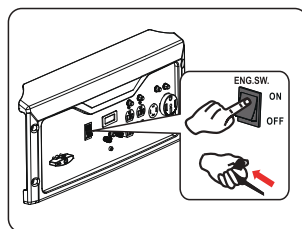

Fig 12
- For manual start, turn the engine ON/OFF switch to the “ON” position. Pull the recoil handle (starter cord) slowly until resistance is felt, then pull rapidly. (See fig 12)